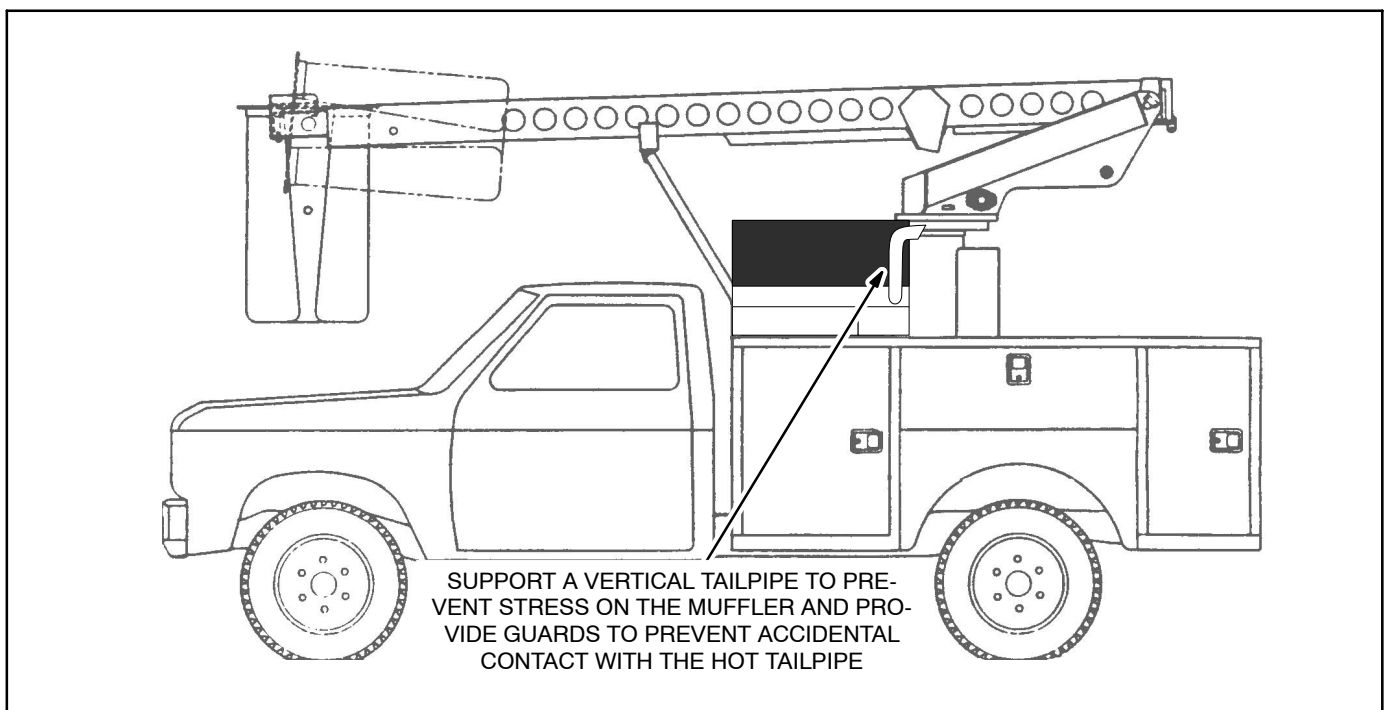

FIGURE 3-8. VERTICAL TAILPIPE
13. To keep rain out, terminate a vertical tailpipe (Figure 3-8) with a rain cap or bend that points towards the rear of the vehicle. Provide guards as necessary to prevent accidental contact with the hot tailpipe during normal use of the vehicle.